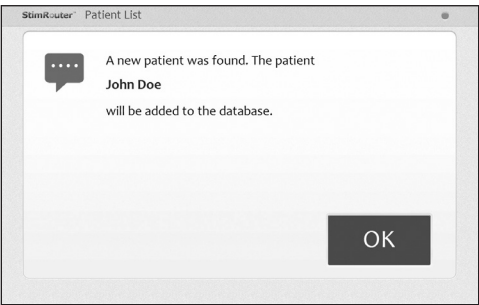

Figure 7-3: Adding a patient with an assigned system
2. The clinician programming software will automatically prompt that a new patient was found and to add the patient to the clinician programmer database. Press "OK". **See Figure 7-3.**